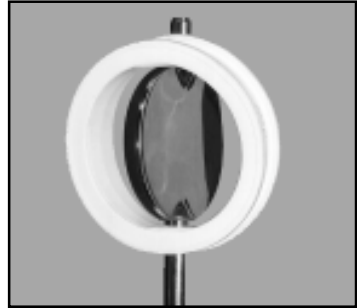

Fig. 1
3. Remove the housing nuts (D), bolts (J) and washers (K and N) from the housing.
4. Pull the upper half of the housing (B) from the disc/shaft (H), seat (A) and lower half of the housing.
5. Remove the alignment sleeves (M) from the housing halves. Some Posi-flate valves use alignment pins. These pins are pressed into one half of the housing and do not need to be removed.
6. Remove the retaining ring (G), lower bearing (F), upper bearings (C) and shaft seals (F) from the housing (B).
7. Pull the disc/shaft (H) with the seat (A) attached from the lower half of the housing (B).
8. Remove the seat (A) from the disc/shaft (H) by detaching the seat from the short stem (see Fig. 1).
9. Rotate the seat (A) 90 degrees and slide it past the disc/shaft (H) and off the long stem.